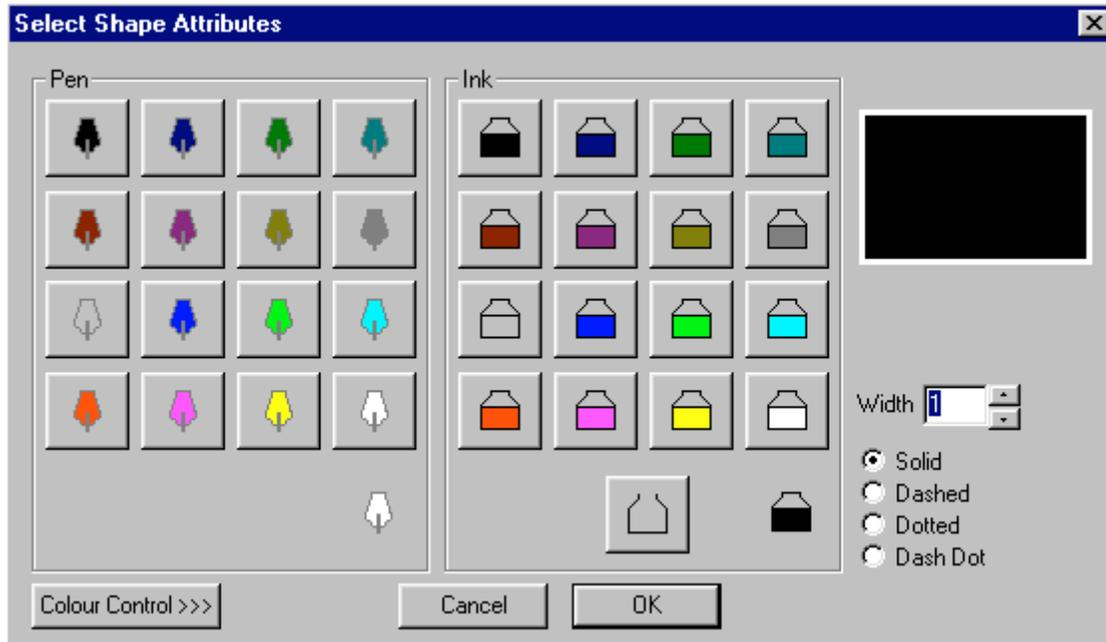

Figure 8.2 – Select Shape Attributes TIU31X/TIU32X
7. Double click on the added rectangle to modify its' colour. The select shape attributes applicable to the terminal type in use will be displayed, which will be similar in format to the figure 8.2